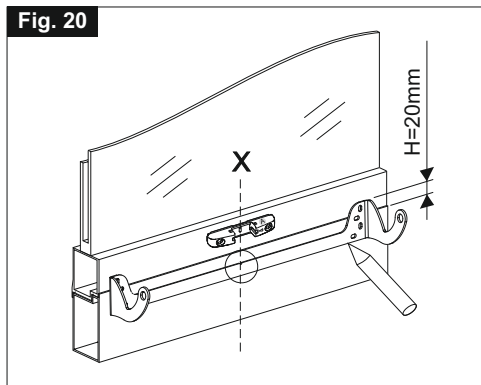

Fig. 21
- 8) **Fig. 21/22-** With a suitable drill, perform four holes on the frame and tighten the bracket with proper screws;